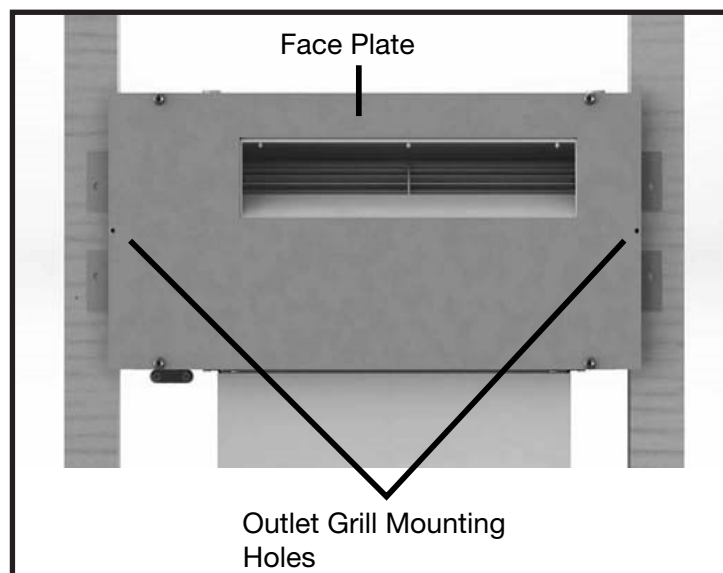

Figure 28: Grill mounting holes.
10. Re-install the Face Plate (Figure 28) and then attach the Outlet grill(s) over the outlet(s) Face Plate using the screws provided by aligning the screws for the outlet grill with the holes in the casing face plate.